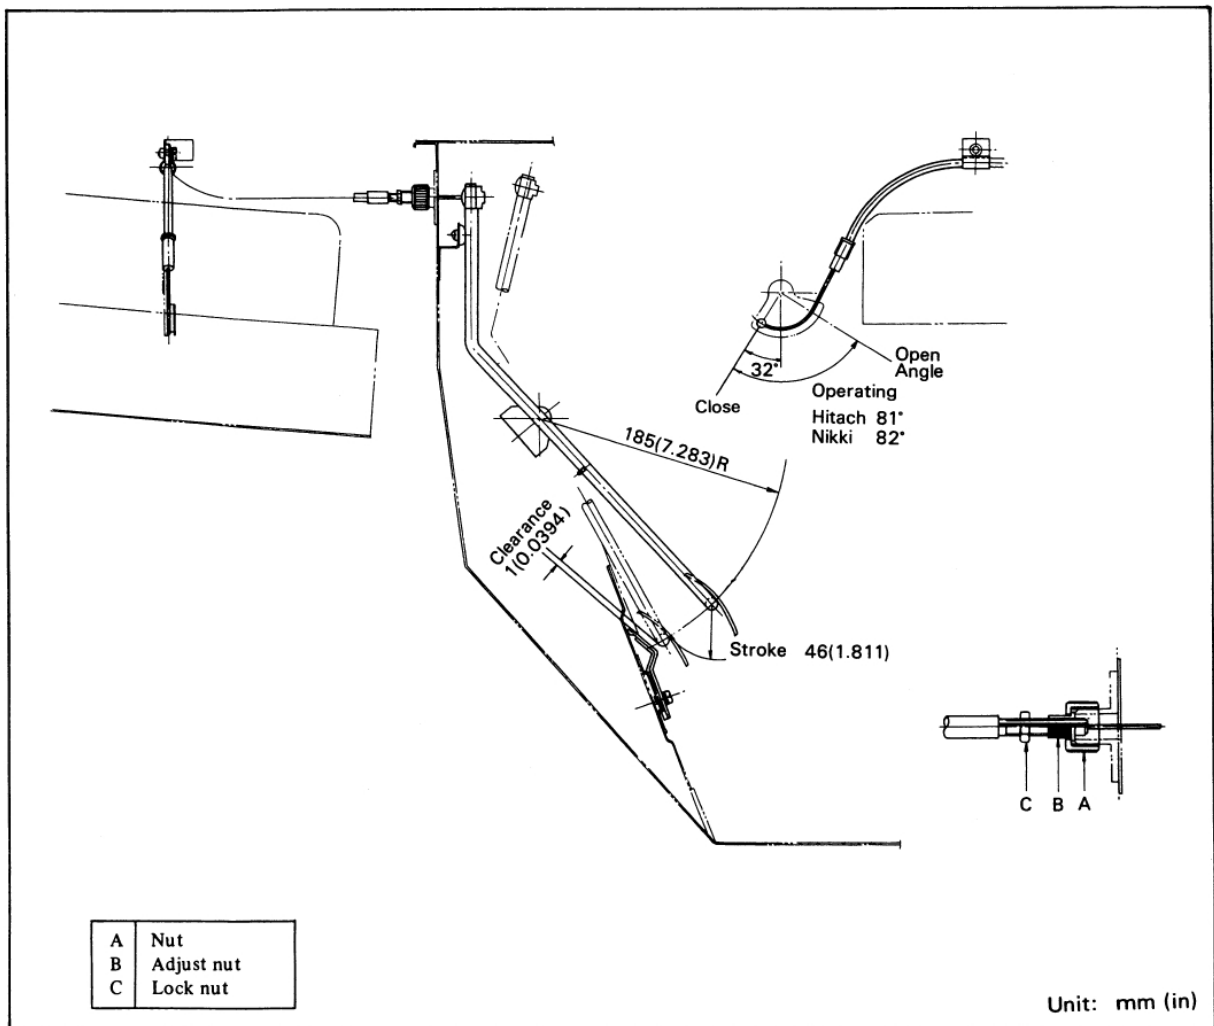

Fig. FE-1 Accelerator control system for RH drive
(1) Assemble accelerator control system as shown in Figure FE-1. Fully screw nut "A" against accelerator wire bracket, and unscrew one complete turn. Make sure that adjust nut "B" can be turned freely and lock nut "C" is loose.
(2) With wire provided with sufficient slackness, turn adjust nut "B" clockwise, and tighten it up to such an extent that throttle lever is about to move. (Play is zero at this time.)
(3) Unscrew adjust nut "B" one to two complete turns. Play will be 1 to 2 mm (0.04 to 0.08 in). Now, completely tighten nuts "A" and "C" to secure nut "B"